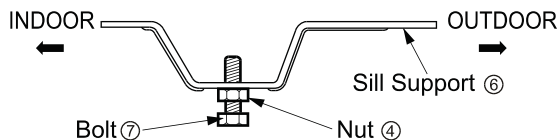

Fig. 3
3. Loosely assemble the Sill Support[®] using the parts. (Fig. 3)